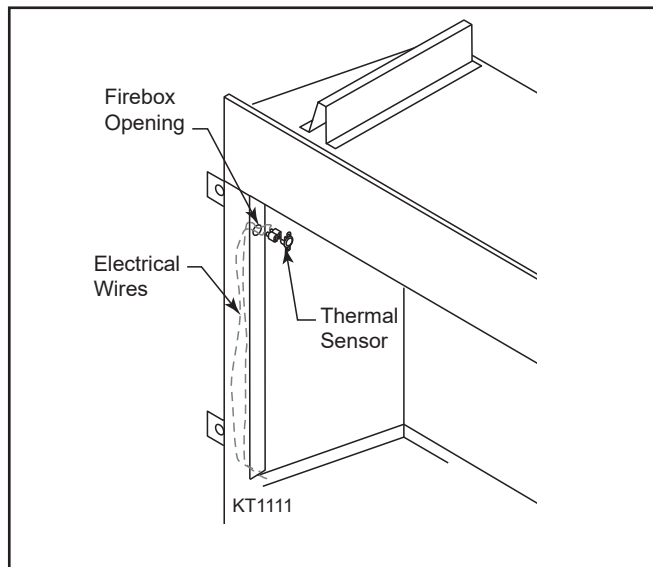

Figure 11
1. Slide wires in hole on inside firebox opening. Figure 11
2. Pop thermal sensor in hole inside firebox opening. Figure 11
3. Drop the two electrical wires from the thermal sensor switch down the back or the left side of the firebox between the outer and inner wrapper. Figure 11